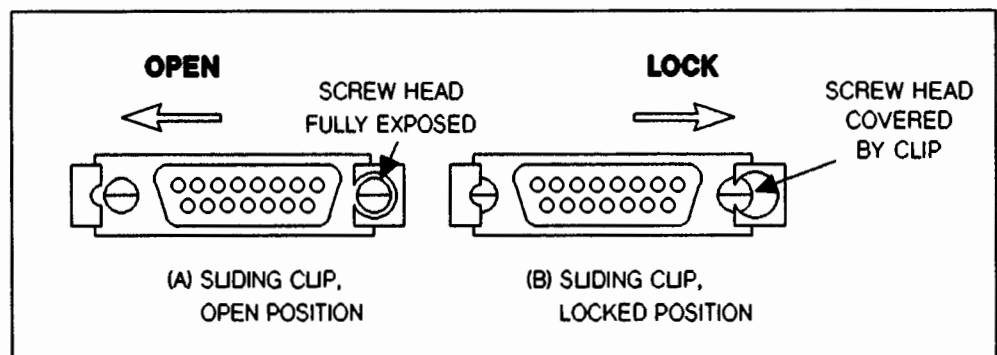

Figure 2-4. Securing Cable Hold-Down Clips
This is illustrated in figure 2-4. When connecting the 15-pin D connectors, be certain that the connector hold-down hardware is secure. The hold-down hardware is a sliding clip mechanism that captures the slotted studs on the opposing connector.
- a) Slide the hold-down clip to the "open" position (see figure 2-4(A)).
- c) Slide the hold-down clip to the "locked" position (see figure 2-4(B)). This hold-down clip prevents accidental cable disconnection during operation.